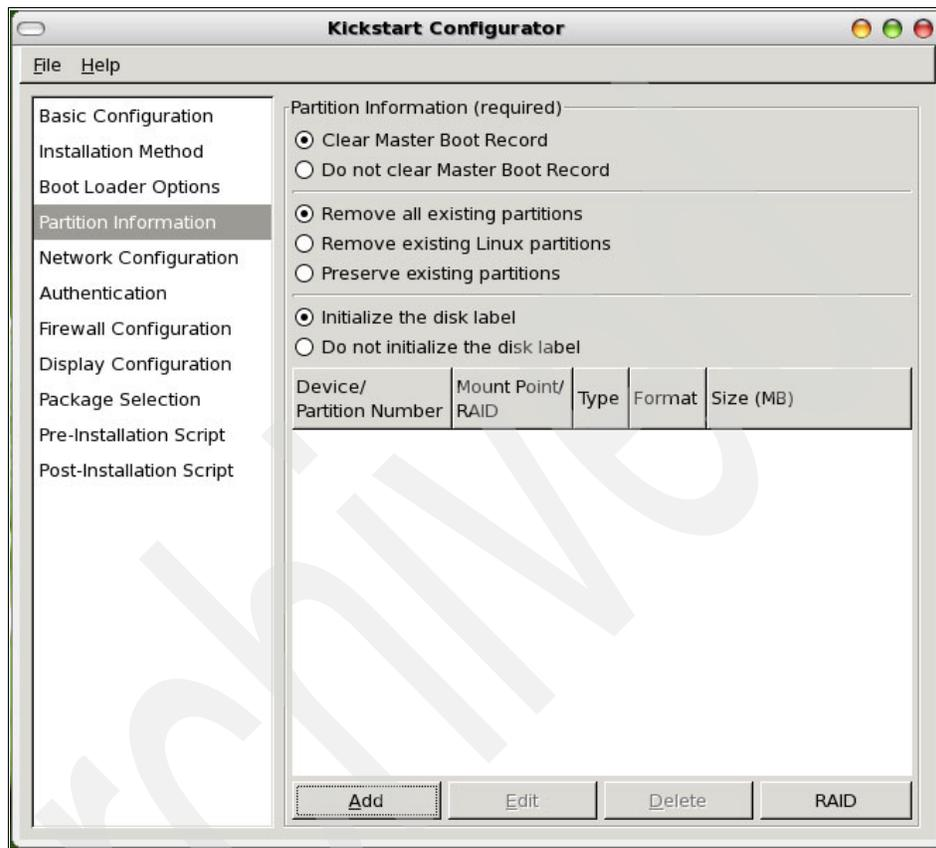

Figure B-3 Partition Information panel (©2008 Red Hat, Inc.)
- The next editable panel is the Partition Information panel, shown in Figure B-3. Press **Add** to create a partition. The tool will help you select the mount point, file system type, and partition size.